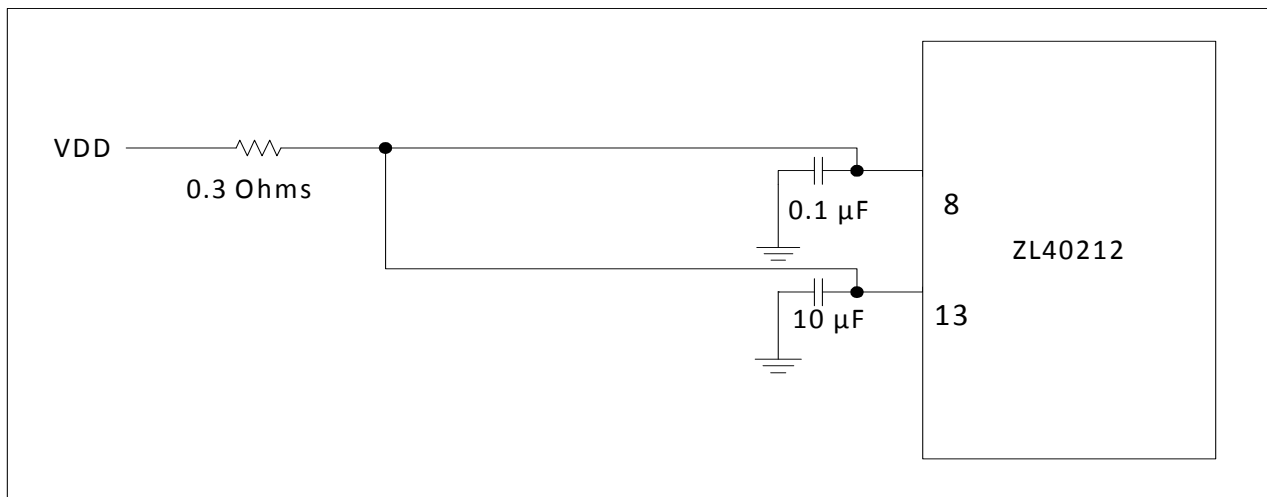

Figure 18 - Decoupling Connections for Power Pins
For optimal jitter performance, the device should be isolated from the power planes connected to its power supply pins as shown in Figure 18.
- a 0.3 Ohm resistor is recommended for the filter shown in Figure 18
The power nets in Figure 18 can be implemented either as a plane island or routed power topology without changing the overall jitter performance of the device.